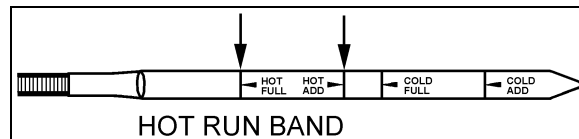

FIGURE 5: HOT CHECK
5. If the level is **not** within this band, add or drain fluid as necessary to bring the level within the HOT RUN band. (Fig. 5).